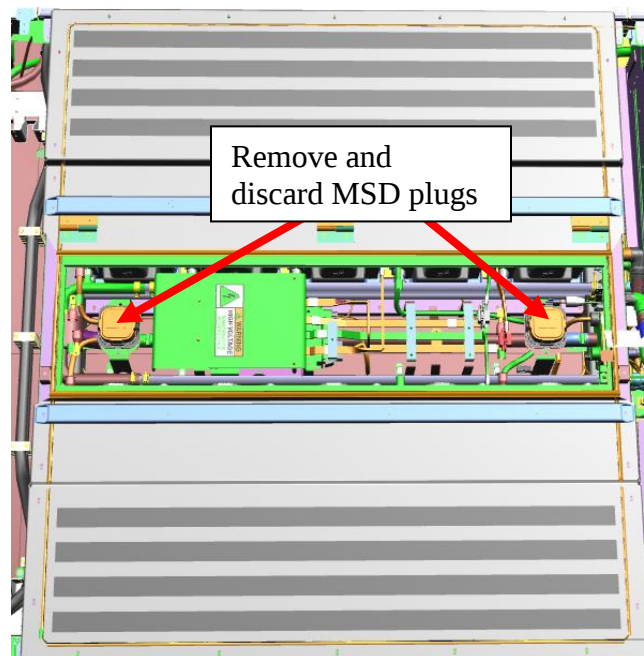

Figure 18: Rooftop ESS MSD location
- 5.2 Locate, remove and discard the MSD plugs. See figure 18.